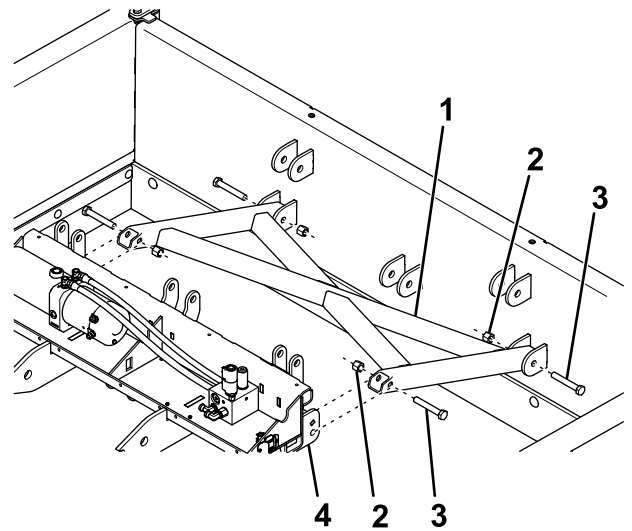

Figure 5
1. Loosely attach the flat end of the lift arm to the lower brackets on the center blade using 2 bolts (5/8 x 4 inches) and locknuts (Figure 5).
2. Loosely attach the angled end of the lift arm to the lower brackets on the coupler assembly using 2 bolts (5/8 x 4 inches) and locknuts (Figure 5).